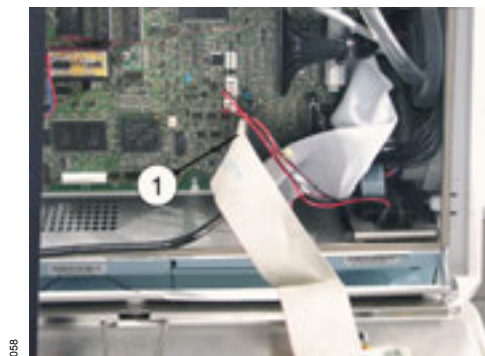

Fig. 54 Detail view of Central Control Board: Cable connector (ribbon cable)
- 4 Insert the cable connector (Fig. 54/1) straight into the plug contact of the Central Control Board, far enough for the locks on both sides to secure the cable connector in place.